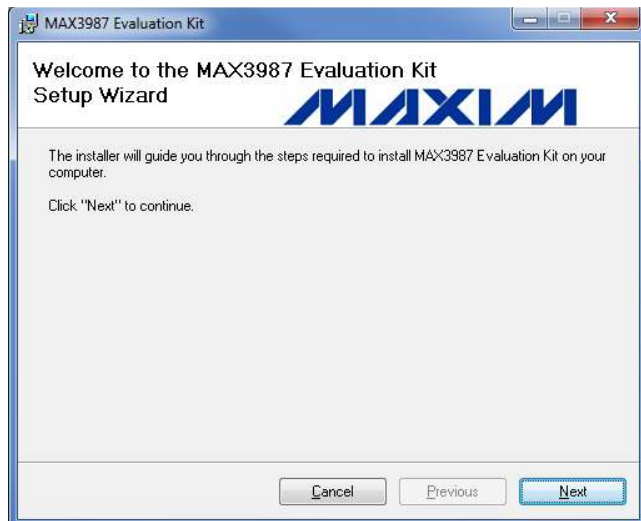

Figure 3. Software Installer Setup Wizard Introduction
- 2) Click **Next** at the welcome screen dialog box. See Figure 3.